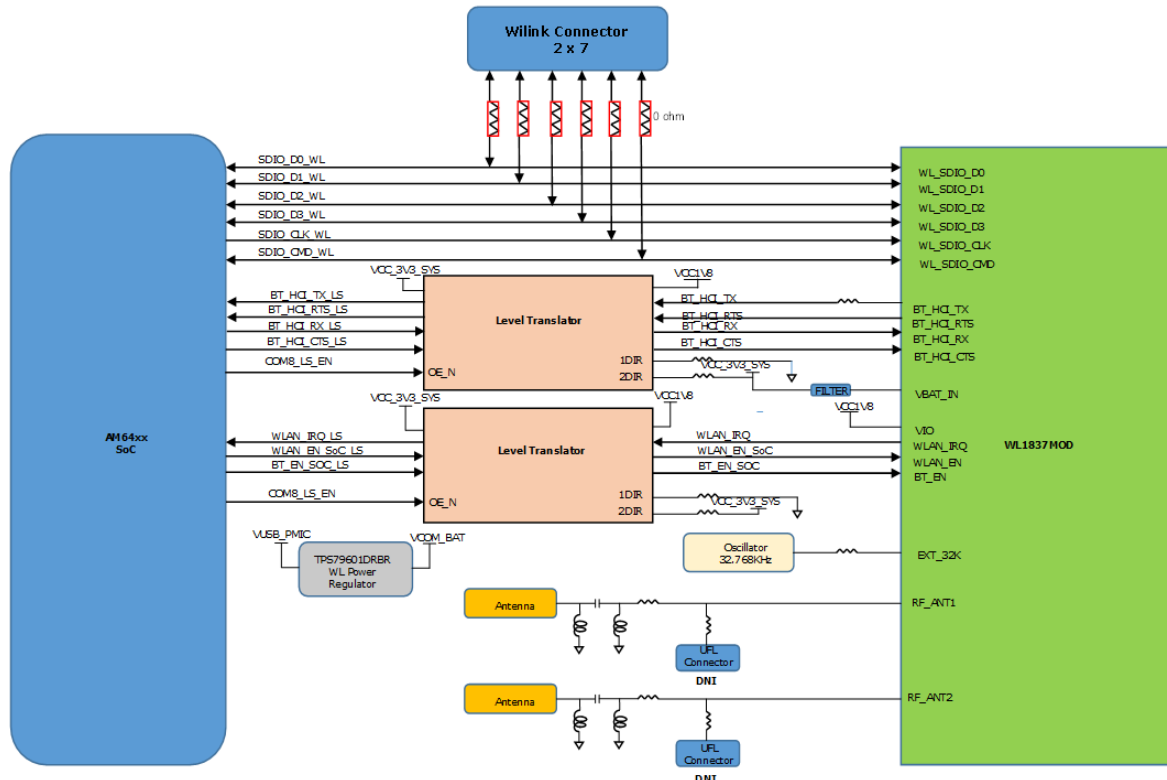

Figure 2-16. WiLink Module Interface
- Assisted WB-speech (AWBS): modified SBC codec implemented internally. Figure 2-16 shows the block diagram of Wilink module interfaced with AM64x.